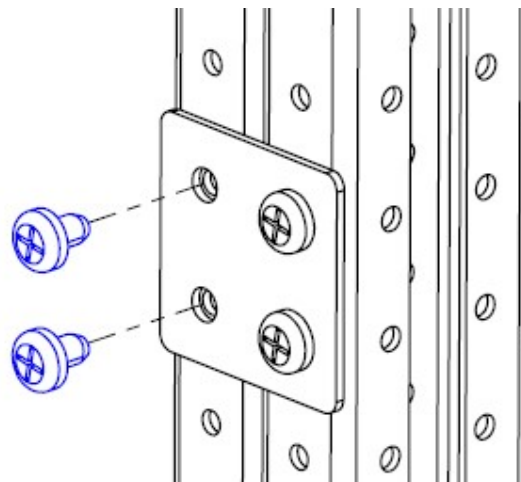

Figure 4.8.3 – Additional sidecar cabinet mounting plate & screws
Once additional cabinet is in place, secure the (5) plates to rails of the subfeed breaker cabinet in which they align with using (2) Phillips pan head thread rolling screws, ABB P/N 09-2200-00001930, per bracket. Refer Figure 4.8.3.